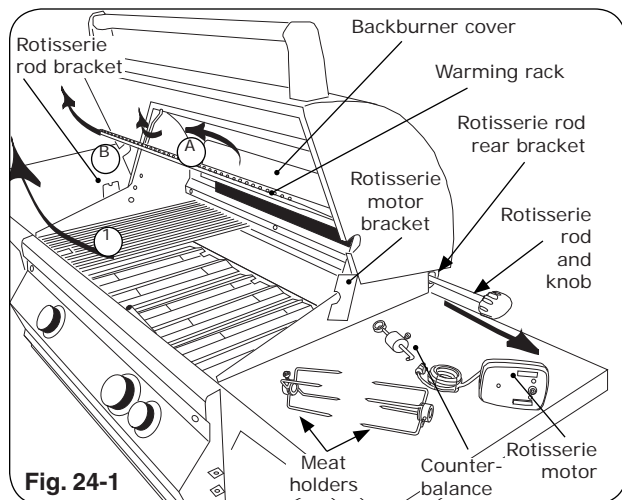
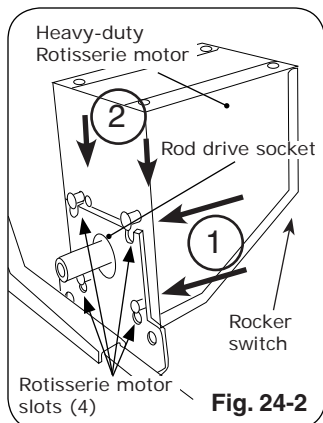
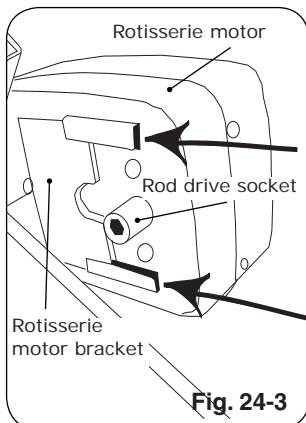

Fig. 24-1
Fig. 24-2
Fig. 24-3
2. Slide rotisserie motor fully onto motor bracket (right side, Fig. 24-2 or Fig. 24-3, and Fig. 24-1).
3. Remove rotisserie rod from rear bracket (Fig. 24-1) and attach knob if necessary.